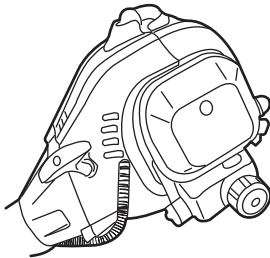

Fig. 18a
6. Fill correctly mixed fuel/oil into the tank using a fuel funnel (NO SUPPLIED) fitted with a filter to avoid debris entering the tank. Do not overfill. Leave a minimum 5 mm of space between the top of the fuel and the inside edge of the tank to allow for expansion. (See Fig. 18a, 18b)